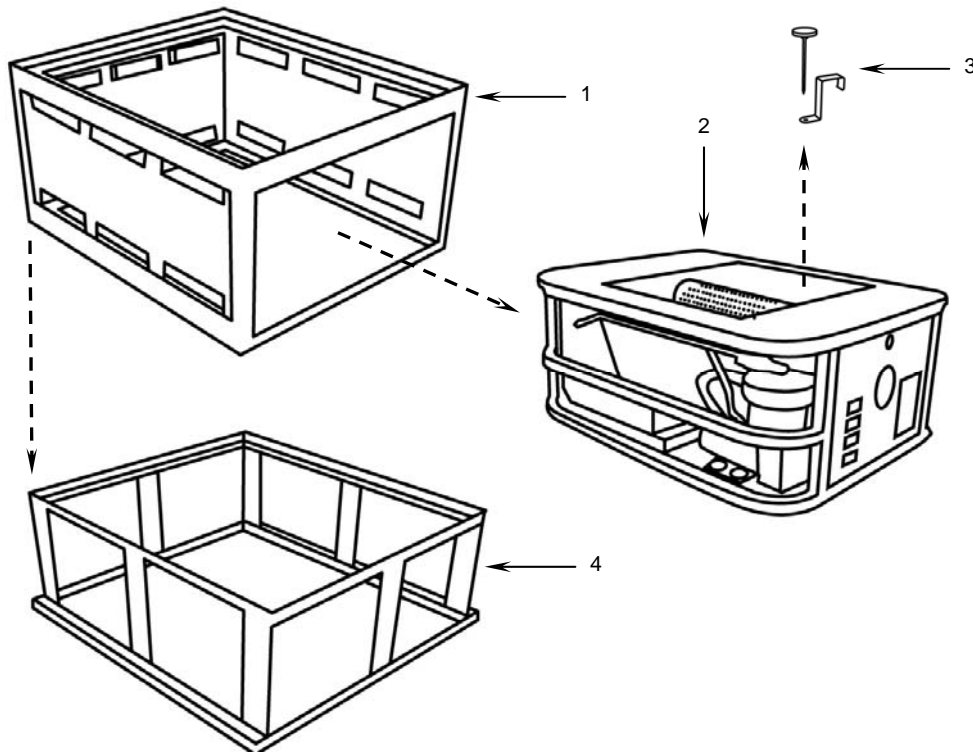

Figure 11. Burner Rack Installation.
- b. Lift each burner rack (**Figure 11, Item 1**) with its MBU (**Figure 11, Item 2**) out of the sinks.
- c. Remove the packed thermometer assemblies (**Figure 11, Item 3**) from their storage location on top of the MBUs and set aside.
- d. Remove the MBUs (**Figure 11, Item 2**) from the burner racks (**Figure 11, Item 1**).
- e. Place the one burner racks (**Figure 11, Item 1**) on top of each of the three base racks (**Figure 11, Item 4**).